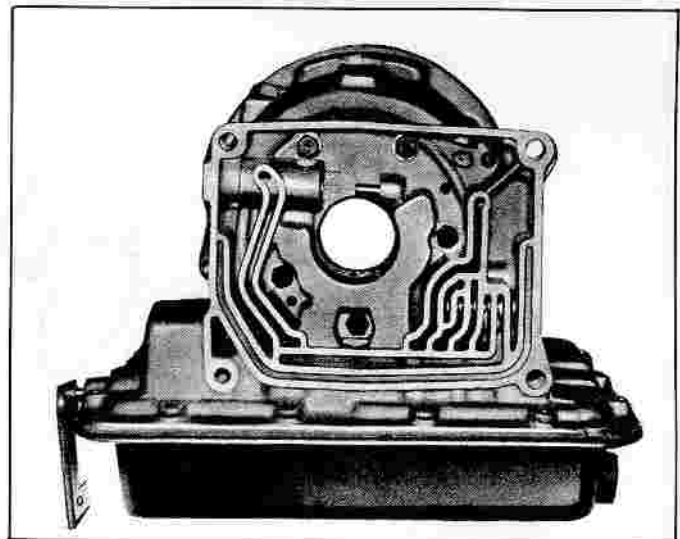

Fig. 7E-27—Rear Pump Mounting Bolts
NOTE: All number references are to Figure 7E-35.
4. To remove the spring retainer (7), place the clutch drum in a press and compress the springs using J-7782 adapter ring and J-5133 as shown (fig. 7E-36). Then remove snap ring (8) with Truarc pliers.
5. Carefully release pressure on press, then remove spring retainer (7) and return springs (6).
6. To remove clutch piston (5) pull upward with a twisting motion on the center, then remove piston seal (4).
7. To complete disassembly, remove piston inner seal (3) from hub of clutch drum (2).